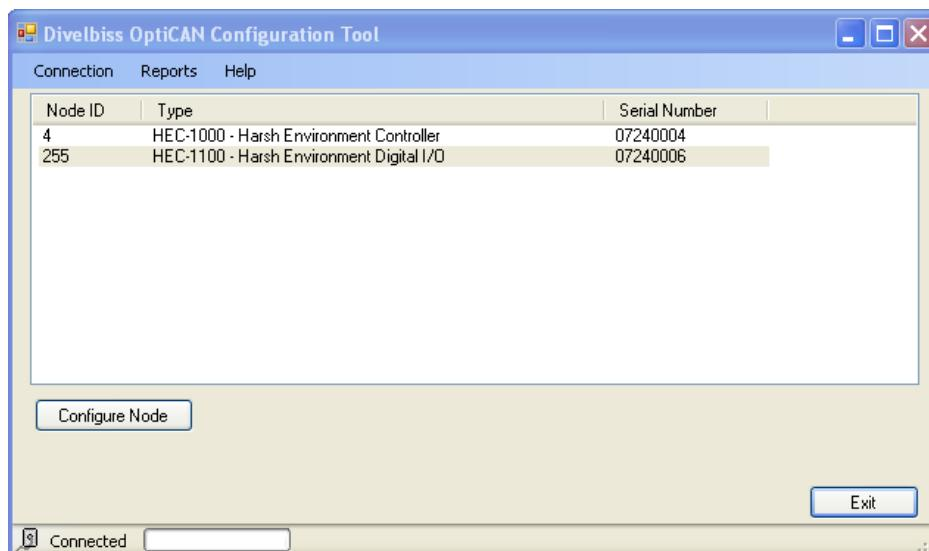

Figure 14-14
- ! When configuring a non-controller device for the first time, the device will display with a Node ID of 255. The 255 designation is reserved for devices that have not been configured. See Figure 14-14. For multiple new devices, they will all be assigned the same 255 Node ID. The controller can differentiate between devices that have not been configured using their serial number. The serial number is programmed at the factory and is not user changeable.